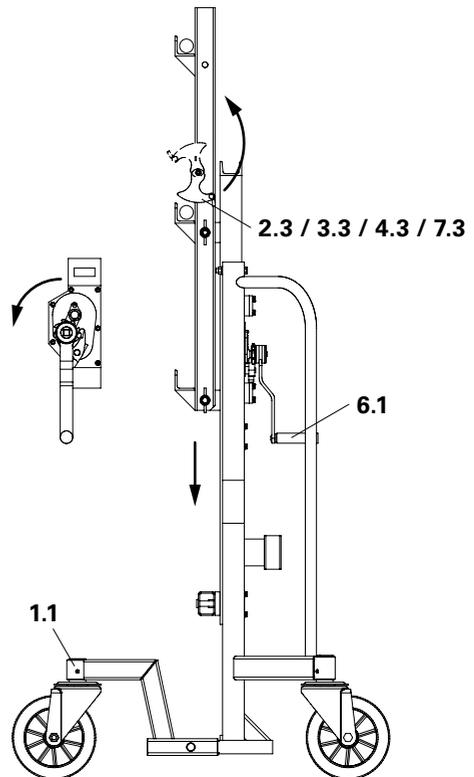

Fig. 34
5. Extend the Trolley with Winch. (Fig. 34)